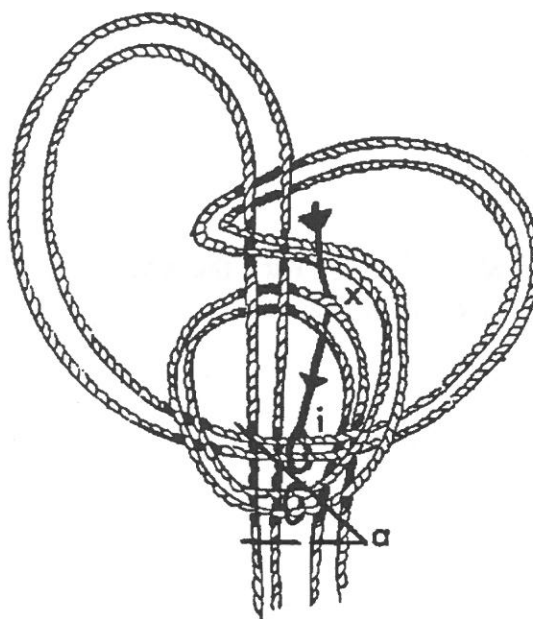

Figure 6
6. With **LEFT HAND**, go down through the ropes as indicated by line and arrows at "x" and grasp the **TWO ROPES AT "i"** with left thumb as shown in Fig. 6. (Caution: When going down through ropes be **VERY CAREFUL** to go **BETWEEN** the four (4) ropes that go down through the **RIGHT HAND**.)